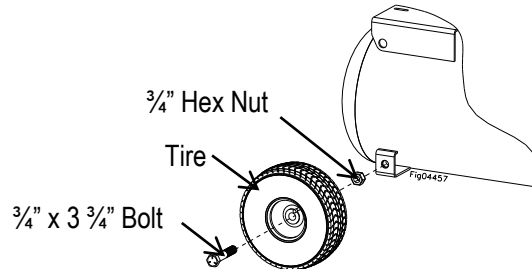
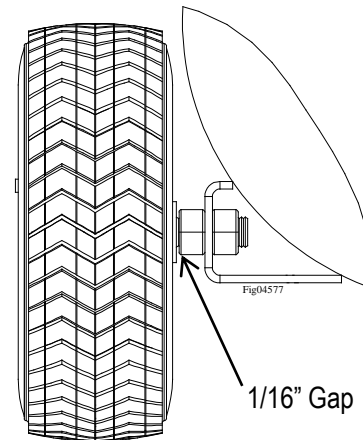

Figure 3
Figure 4
1. Assemble tires on air compressor as shown. (Figure 3) Allow 1.6 mm (1/16") movement between the hex nut and wheel. (Figure 4)